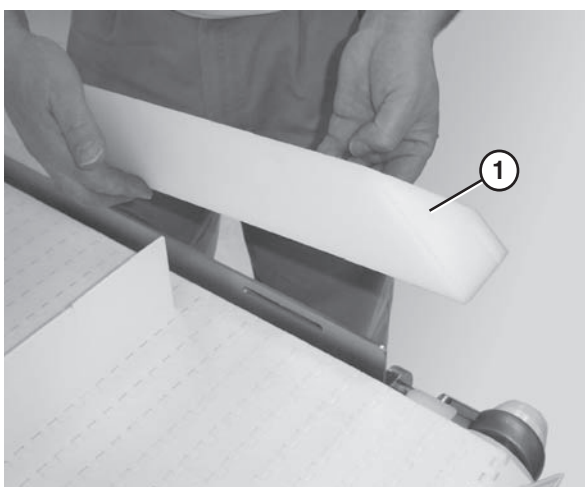

Figure 56
2. Remove the guide (**Figure 56, item 1**).